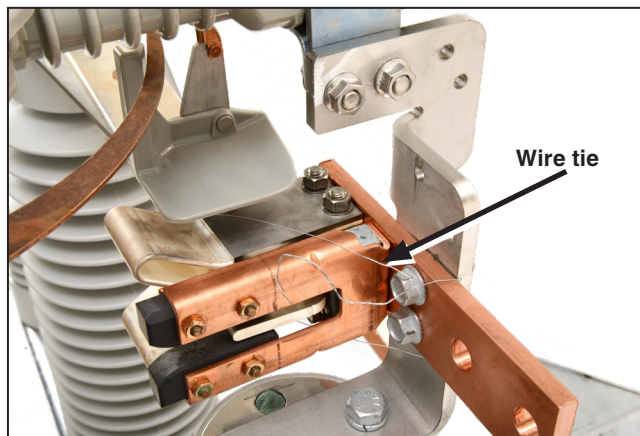

Figure 26. Removing tie at stationary main contact assembly.
**STEP 23.** Remove the ties holding the switch blades to their stationary main contact assemblies. See Figure 26.